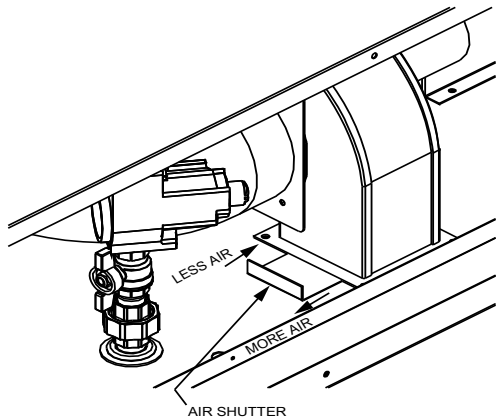
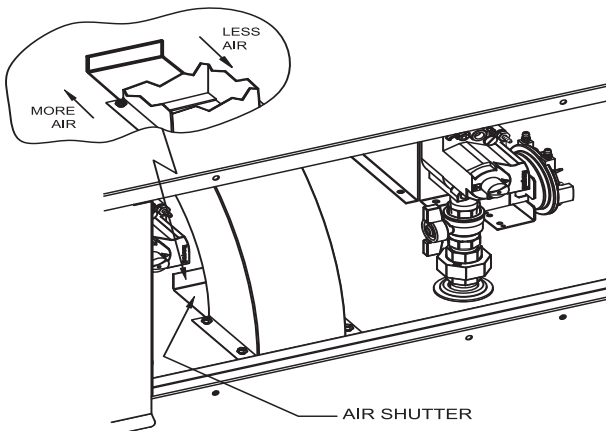

FIG. 56 Adjusting Air Shutter 399,999 - 750,000 Btu/hr Models
FIG. 58 Adjusting Air Shutter 990,000 - 2,070,000 Btu/hr Models
**Note:** On the 399,999 - 750,000 Btu/hr models the air shutter is adjusted on the side of the fan duct as depicted in FIG. 56. On the 990,000 - 2,070,000 Btu/hr models the air shutter is adjusted on the rear of the fan duct as depicted in FIG. 58.
3. Depending on model, the air shutter(s) may be located either on the side or the rear of the fan duct. Locate the air shutter at the side/rear of the fan duct (see FIG. 56 and 58). Move the air shutter towards the rear or left side of the unit to increase air pressure. Move the air shutter towards the front or right side of the unit to decrease air pressure.